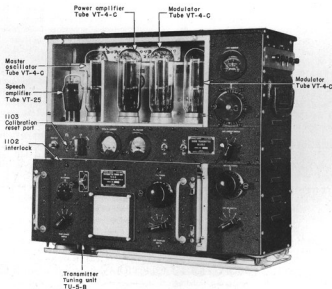

FIGURE 8. RADIO TRANSMITTER BC-375-E TUBE COMPARTMENT SHIELD REMOVED AND TRANSMITTER TUNING UNIT TU-5-B BEING INSERTED
(1) Remove Plug PL-59 from the radio transmitter. Caution: Do not handle the unused plug.
(2) Remove the tube compartment shield and insert the tubes. From the front of the radio transmitter, progressing from left to right, the tubes are as follows: (See Fig. 8)